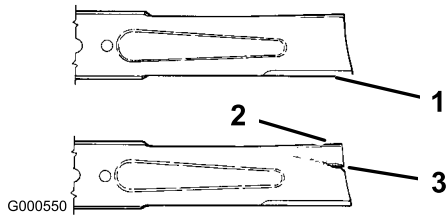

Figure 35
1. Inspect the cutting edges (Figure 35). If the edges are not sharp or have nicks, remove and
2. Inspect the blades, especially the curved area (Figure 35). If you notice any damage, wear, or a slot forming in this area (item 3 in Figure 35), immediately install a new blade.